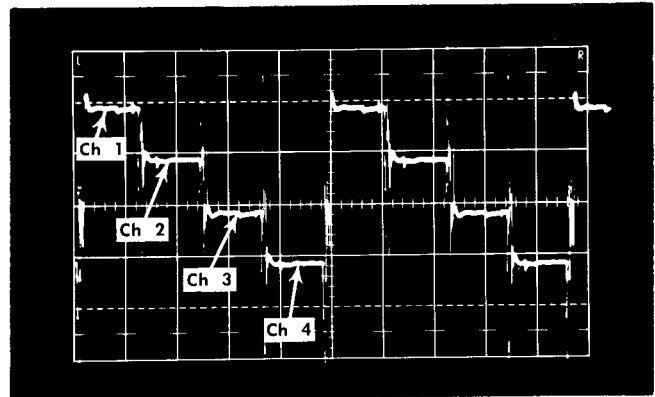

Fig. 7-10. Checking for proper chopped mode of operation. Sweep rate: 2 $\mu\text{s}/\text{cm}$.
- d. Using the Type 1A4 POSITION controls, position the chopped traces so Channel 1 is about 2 cm above the graticule centerline and the traces for the other channels follow in sequence one cm apart below Channel 1. Readjust, if necessary, the oscilloscope Triggering Level control so the Channel 1 trace segment is displayed first (see Fig. 7-10).
- e. CHECK—For a chopped display (see Fig. 7-10). The trace segments for all four channels should be displayed.